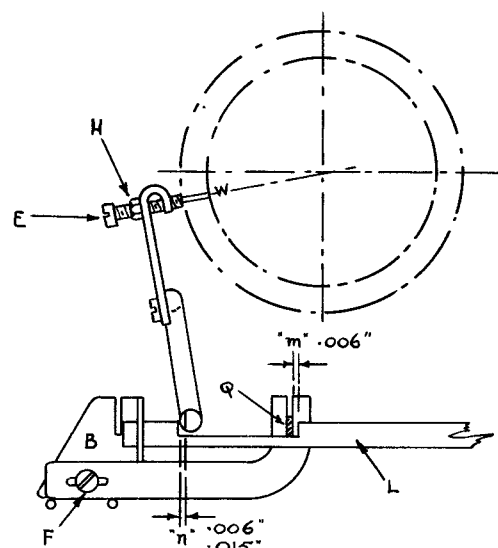
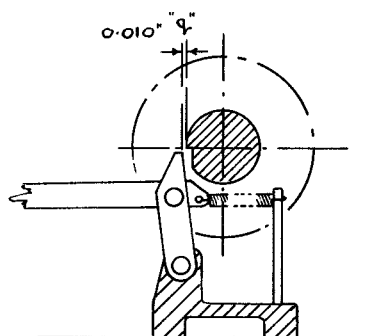

FIG 27
FIG 28
47. WHEN "D" KEY IS DEPRESSED THE KEYBAR EXTENSION Q (FIG 27) SHOULD SATISFY DIMENSION "m". ADJUST BY SLIDING THE GUIDE B, CLAMP BY SCREW F. TO REDUCE ANY FRICTION IN THE GUIDE, PUT A SET IN THE KEYBAR EXTENSION Q AS REQUIRED.
48. ALLOW THE ANSWER-BACK BELL CRANK W (FIG 27) TO FALL. ADJUST THE SCREW E TO SATISFY DIMENSION "q" (FIG 28) LOCK BY NUT H. WHEN THE "D" KEY IS NORMAL, DIMENSION "n" (FIG 27) SHOULD BE SATISFIED.